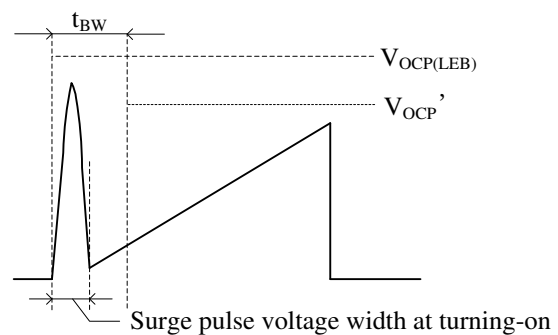
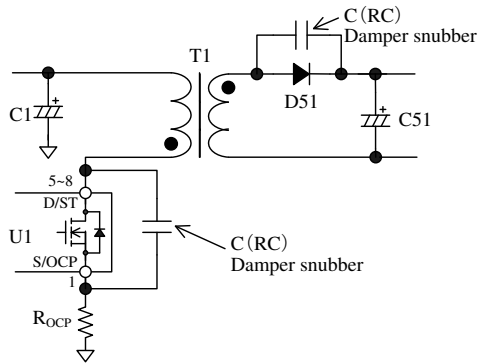

Figure 10-12. S/OCP Pin Voltage
Figure 10-13. Damper Snubber
During the leading edge blanking time, the OCP threshold voltage becomes $V_{OCP(LEB)} = 1.69\text{ V}$ which is higher than the normal OCP threshold voltage as shown in Figure 10-12. Changing to this threshold voltage prevents the IC from responding to the surge voltage in turning-on the power MOSFET. This function operates as protection at the condition such as output windings shorted or unusual withstand voltage of secondary-side rectifier diodes.
When the power MOSFET turns on, the surge voltage width of the S/OCP pin should be less than t_{BW} , as shown in Figure 10-12. In order to prevent surge voltage, pay extra attention to R_{OCP} trace layout (see Section 11.2). In addition, if a C (RC) damper snubber of Figure 10-13 is used, reduce the capacitor value of damper snubber.